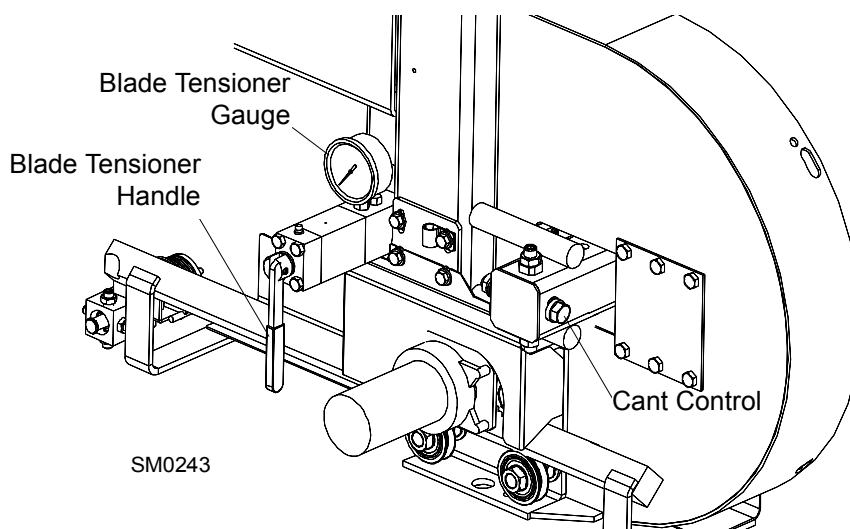

FIG. 1-5
See Figure 1-5. Tension the blade by turning the hydraulic tensioning handle clockwise until the tension gauge indicates the recommended tension.
4. To adjust where the blade travels on the blade wheels, use the cant control shown in **Figure 1-5**.